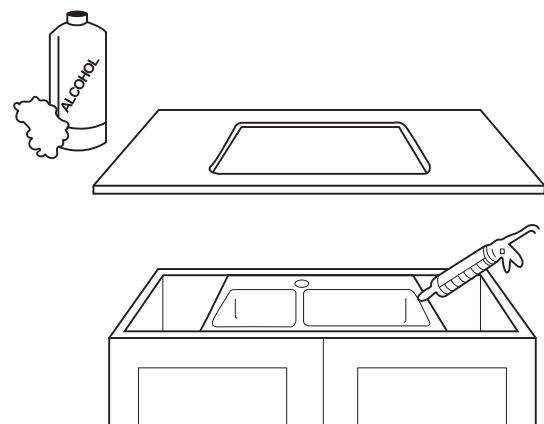

Figure C-4
- Clean the top of the sink flange with denatured alcohol and a clean, white cloth (Figure C-4).